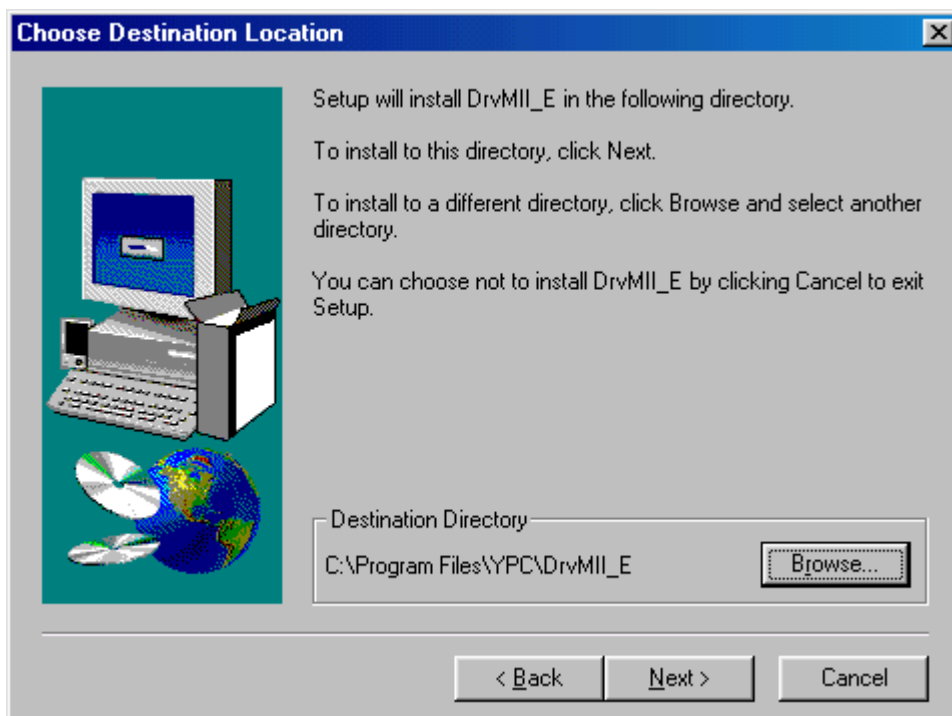

Figure 4.3.1 “Choose Destination Location” dialog box
The M2 PC utility (hereinafter referred to as the “PC utility”) runs on Windows 95, 98, 98SE, Me, WindowsNT4.0 and 2000. It can be installed via “Add/Remove Programs” under the “Control Panel” in Windows. If an older version of the PC utility is present, delete it first and then install the new version. Display the “Properties of Adding/Removing Programs” dialog box and click “*Set Up (1)*.” Then proceed according to the instructions displayed on the screen. The PC utility setup program starts up. Proceed with the setup according to the instructions on the screen. A dialog box for determining the directory in which to install the PC utility appears (see Figure 4.3.1).